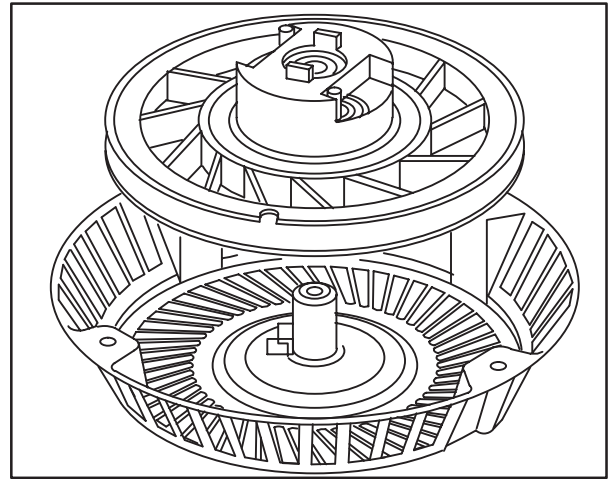

Fig. 57
5. Carefully lift out pulley with spring, **Fig. 57.**